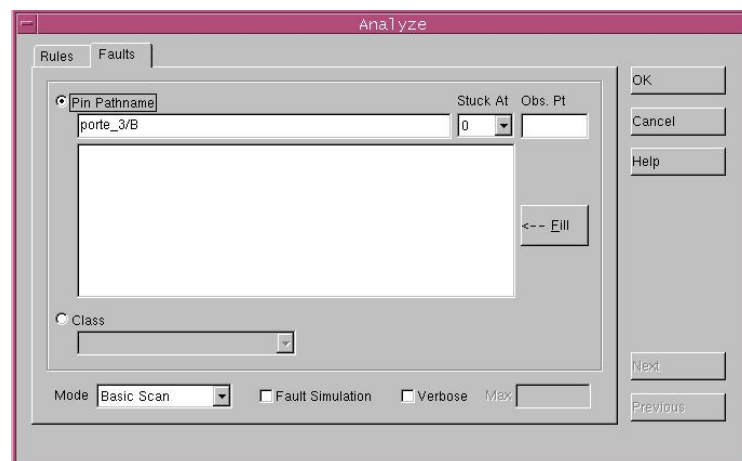
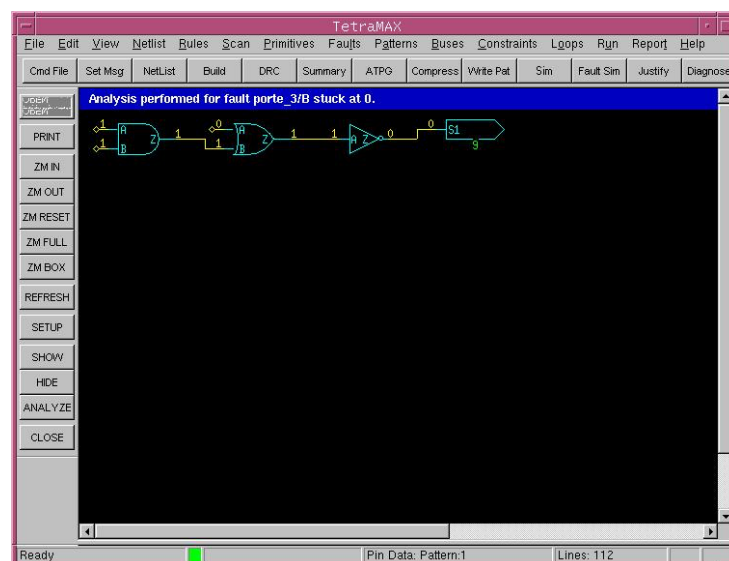

Figure 6: Analyze window
Figure 7: Analyze window
- Fault effect path analysis: In the left menu click on **ANALYSIS**, then on the **Faults** tab the window (see Figure 6) opens. In this example we want to analyze step by step the test of the sticking at 0 of the B input of gate 3 (gate\_3/B Stuck at 0). Click on **OK**, you can see on the main window (Figure 7) the path used by the fault effect and the values to be applied to the inputs of the logic gates to propagate this fault effect.